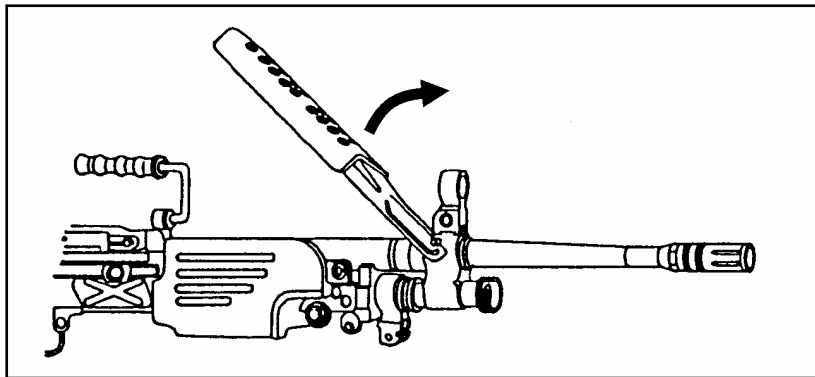

Figure 071-312-4025-6. Removal of the heat shield
d. Remove the barrel (figure 071-312-4025-7).
(1) Ensure the folding handle on the new style barrel is in carrying (up) position.
(2) Depress the barrel-locking lever with your left hand. Grasp and lift the carrying handle with your right hand. Push the barrel forward.